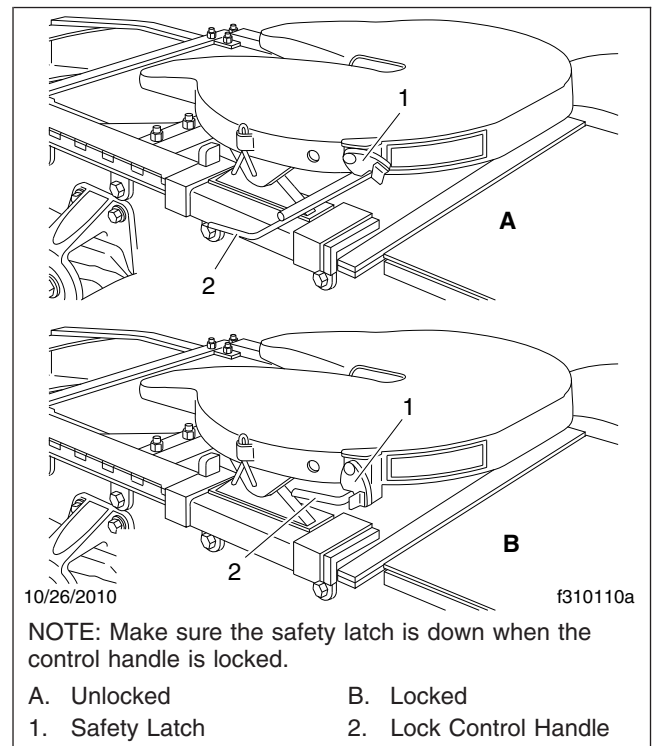

Fig. 10.17, Fontaine Fifth Wheel, Locking and Unlocking
6. Make a visual and physical check for positive kingpin lockup. When lockup has occurred, the fifth wheel control handle will have moved to the locked position. Make sure that the safety latch is down over the lock control handle. See Fig. 10.17. This will hold the control handle in the locked position.
6. Release the kingpin locking mechanism by lifting the safety latch and pulling the lock control handle to the unlocked position. See Fig. 10.17.